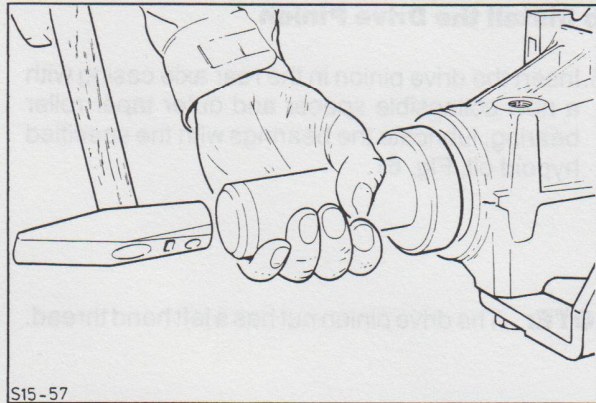

Fig. 64. Replacing drive pinion oil seal using Special Tool 15-047-A.
36. Fit the drive pinion oil seal using Special Tool 15-047A, Fig. 64.